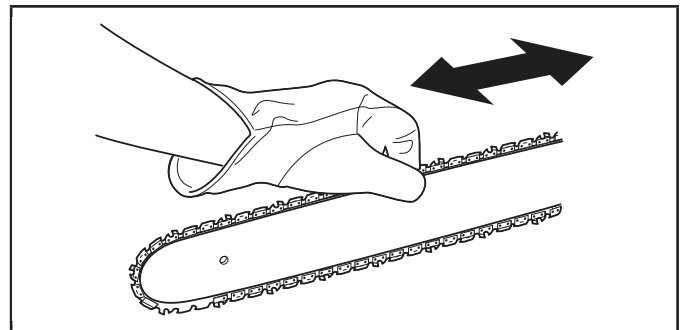

Figure 27
4. Wearing protective gloves, hold the guide bar tip up and move the saw chain back and forth along the guide bar (Fig. 27). Make sure the saw chain moves freely and is in proper mesh with the sprocket. If the saw chain does not move easily, slowly turn the chain-tensioning screw counterclockwise to loosen the saw chain.